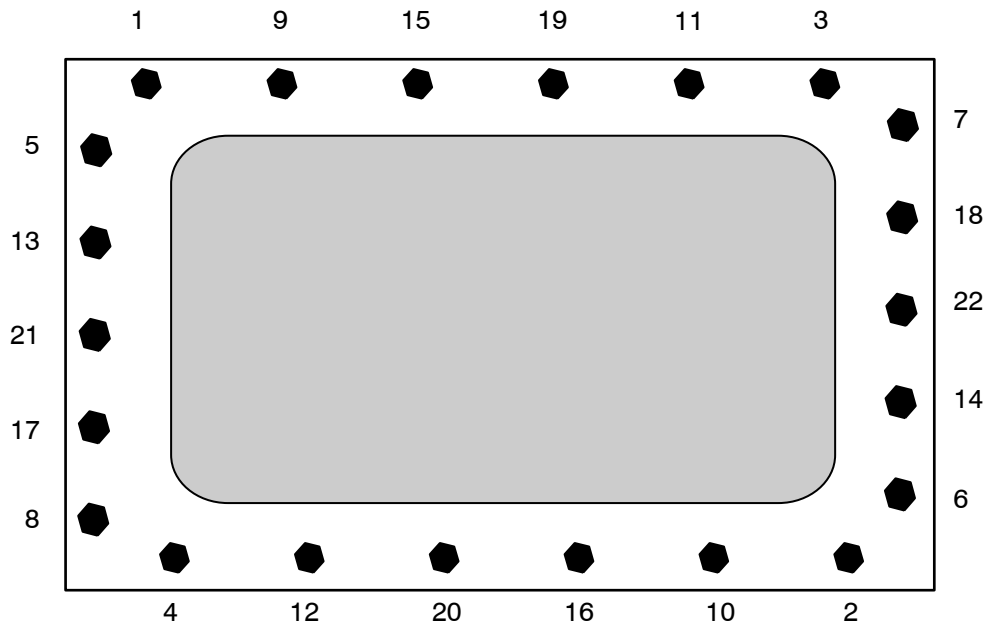

FIGURE 2 - TYPICAL TIGHTENING SEQUENCE FOR NUTS ON WATER BOX
3. Using a torque wrench, tighten nuts to 30 ft./lbs using an alternating pattern similar as shown in Figure 2.